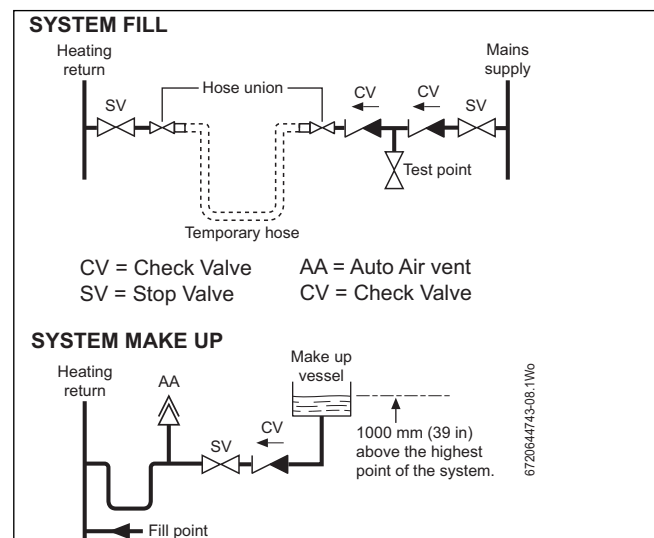

Fig. 5 System fill/System make-up
- The CH sealed system must be filled using a WRAS approved filling loop or comply with figure 5 for system fill.